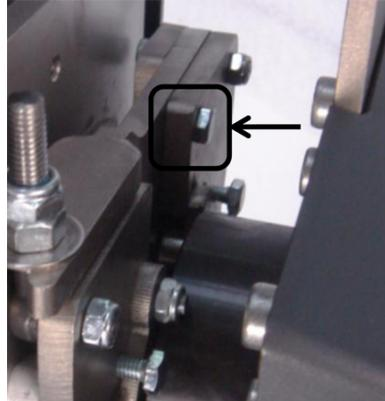

Figure 3-23 Tighten Safety Bolt
4. Tighten the safety bolt. (Figure 3-23)